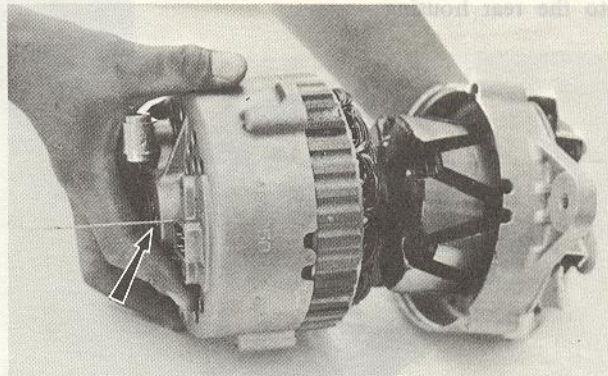

Fig. 5-17 Installing rotor assembly
1. When installing the rotor assembly to the rear housing and stator assembly, hold the brushes in position by inserting a piece of stiff wire into the hole of the brush through the rear housing as shown in Fig. 5-17.